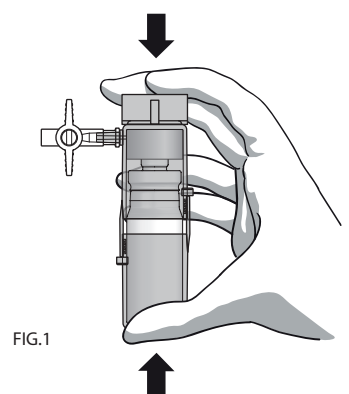

FIG.1
**Press the two half-shells of the canister** (fig.1) **bringing them together to hook each other.**